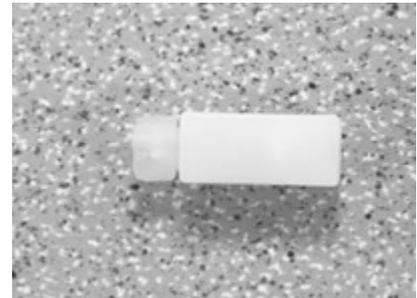

Figure 14
- Screw a port plug into the female to female adaptor, see Figure 14. If you don't have a port plug available, you can use a fitting, ferrule and a section of solid tubing instead.